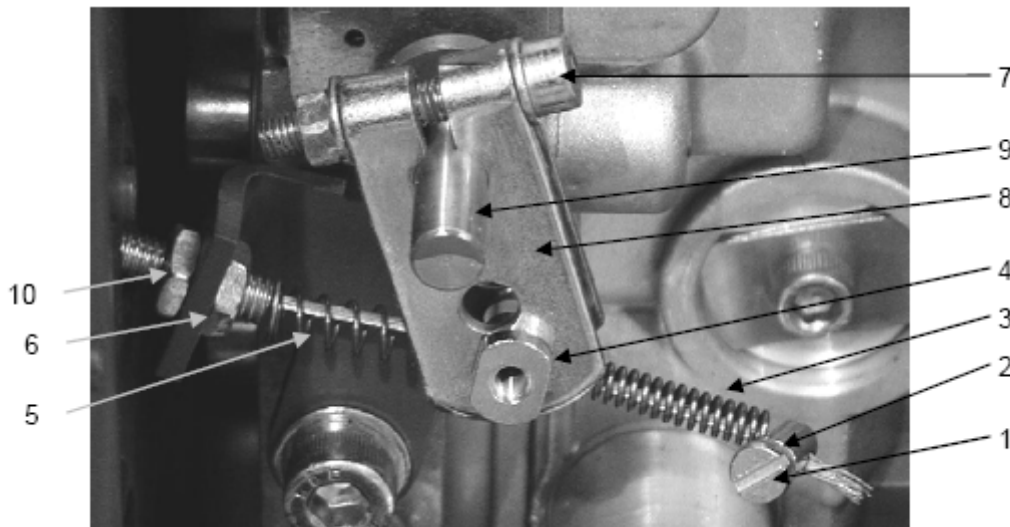

Fig 19 Engine speed control cable - engine end
62.3 With reference to Fig 19, release the clamping screw (1) securing the inner cable at the engine end of engine speed control cable. Remove the clamp body (2) and spring (3).
- 62.11 With reference to Fig 19, secure the locknut (6).
- 62.14 Slide the engine speed control bracket (8) onto the mounting shaft (9) and secure with the retaining screw (7). The bracket should be secured at an angle of approximately 170° when viewed from the front as shown in Fig 19. Final adjustment is made during the setting-up procedure detailed in Para 71 and 72.
- 63.1 With reference to Fig 19, remove the locknut (6) and adjustment nut (10) from the securing/adjusting assembly.
- 73.8 To adjust the engine speed control cable, release the locknut Fig 19 (6)) and adjustment nut (10) on the engine speed control cable at the engine end. This will enable rotation and adjustment of the tension of the inner cable with a resultant change in engine speed control position and engine speed.